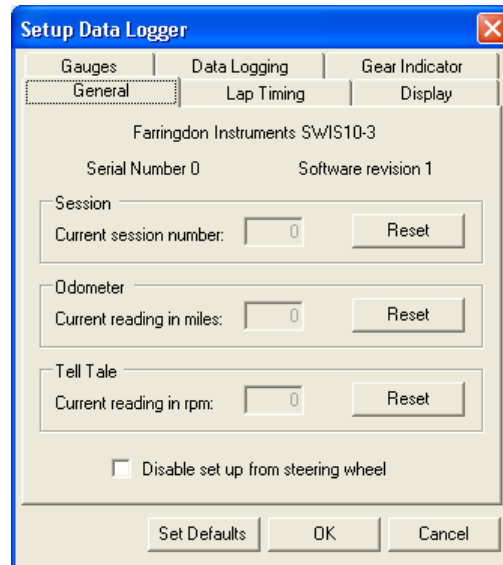

Figure 27 - Setup Data Logger Dialog (General Page)
2. Connect the data logger to the serial port of the host computer using the cable provided and click **OK**. The current configuration of the steering wheel is transferred to the host computer and the Setup Data Logger Dialog (Figure 27) appears.
Click the **General** tab to display the General page (Figure 27) of the Setup Data Logger Dialog.